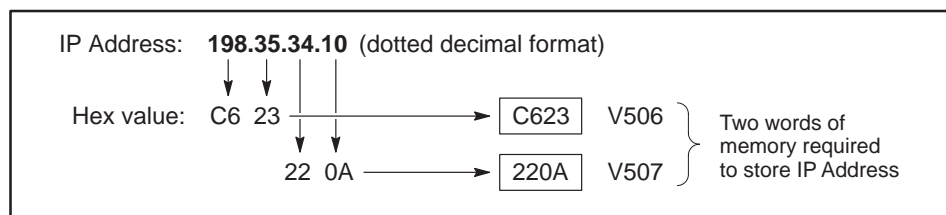

Figure I-2 Entering an IP Address in TISOFT
For an IP address of 198.35.34.10, enter the first word (V506) as hex C623, where the high byte (C6) is the hex equivalent of decimal 198 and the low byte (23) is the hex equivalent of decimal 35. Similarly, enter the second word (V507) as hex 220A, as shown in Figure I-2: